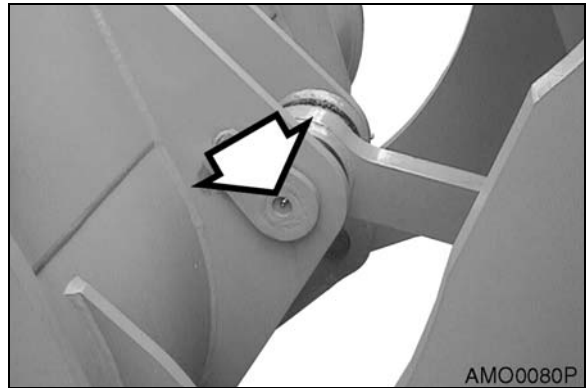

Figure 30
- Bucket link connecting pin, 1 location (Figure 30).